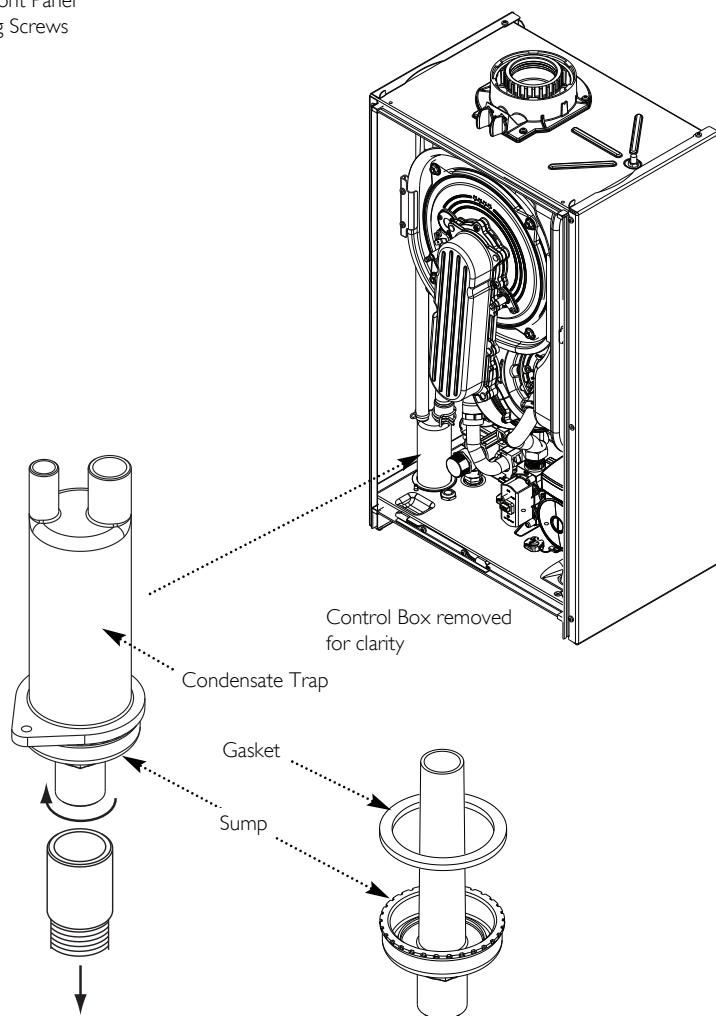

Fig. 41
4. Disconnect the condensate drain pipe and unscrew the sump from the bottom of the condensate trap assembly (Fig. 41). Remove any deposits from the sump and trap. Clean as necessary and replace the sump.